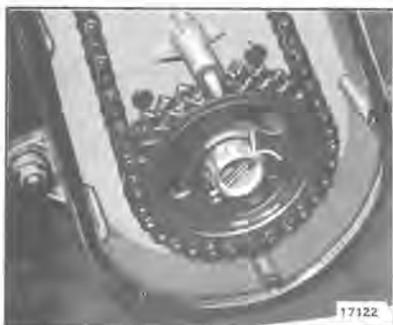

Figure 11-7
6. Remove cotter pin, bottom sprocket and washer. See Figure 11-7.